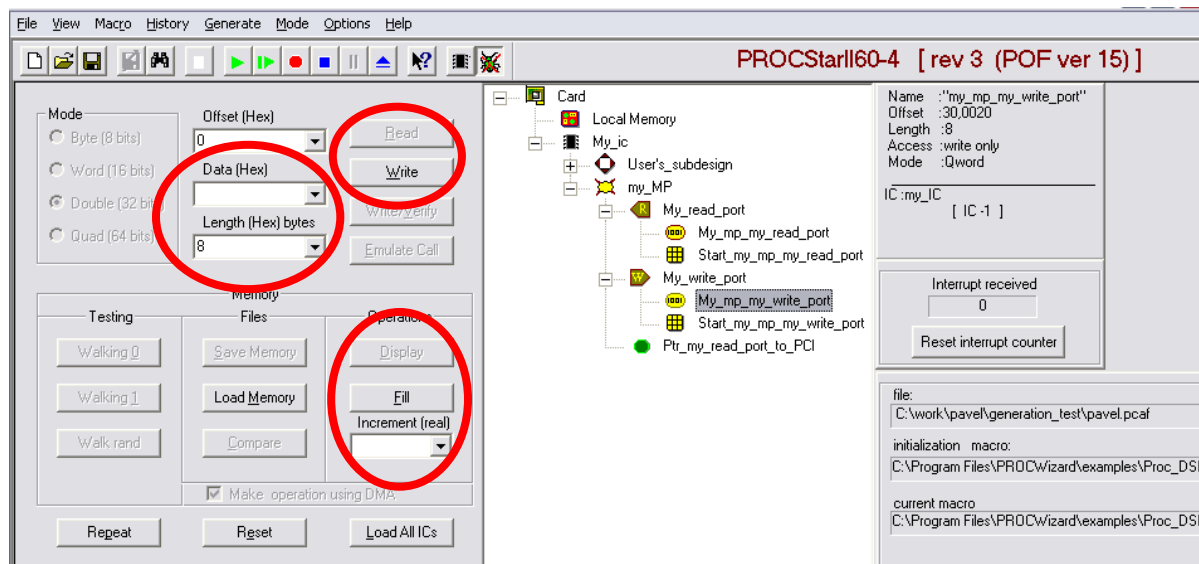

Figure 15 – PROCWizard Debug Mode Window with PROCMultiPort IP
- Register **Start_[*multiportname*][*portname*]** (see Figure 15) is used to reset the Port. Writing the required starting address to this register asserts the Start signal high for that Port and at the same time places the address on the Port address bus. This resets the Port and returns it to the specified address.